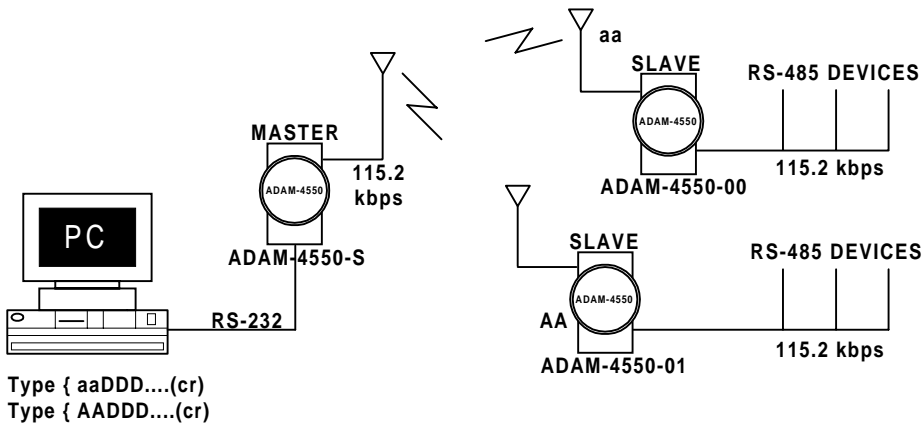

Figure 3: Test Sample
1. Follow procedures in section C to install one ADAM-4550 unit as the MASTER module for a controlling PC and two ADAM-4550s as SLAVES for the remote devices (see Fig. 3).